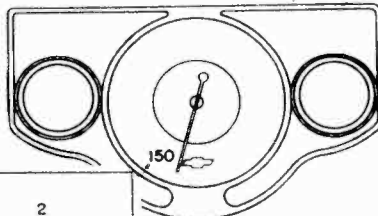

Fig. 3.
5. Turn the Station Selector knob to its high frequency limit. The dial pointer then should barely overlap the lower corner of the Chevrolet insignia on the dial, as shown in Fig. 3. If it does not, remove the knobs and the two bearing inserts that are screwed in the escutcheon. The escutcheon can then be removed, the dial pointer mounting screw loosened and the dial pointer set correctly. In its correct setting, the dial pointer position coincides with the stop on the large gear.